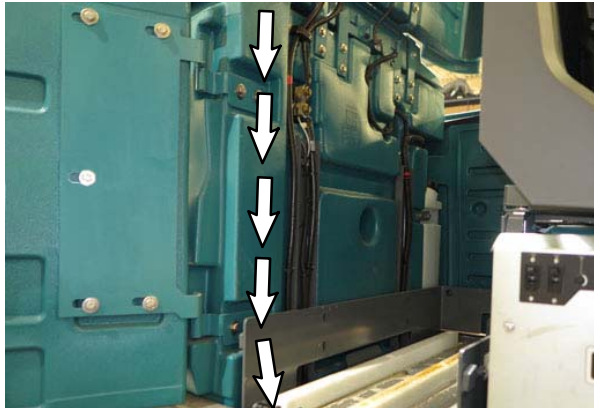

**FIG. 6**
3. Use the M8 hex screws (21) and three cable clamps (20) to secure the battery cable (14) to the battery cover. (Fig. 6)